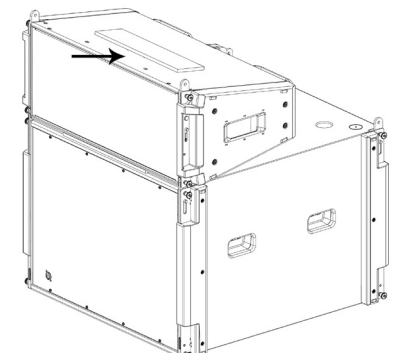

Fig. 8. Affix isolation pad to full-range module
3. Position pad over Bose logo on top surface of full-range module. Affix isolation pad adhesive side down. See Fig. 8.